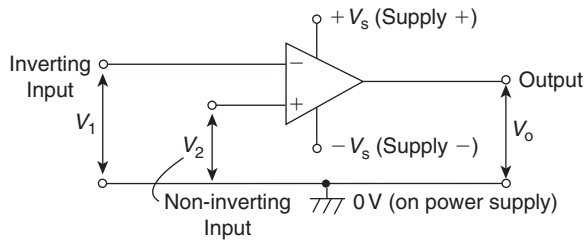

Figure 19.1
- (iii) a very low output impedance, around 100Ω , such that its output voltage is transferred efficiently to any load greater than a few kilohms. The **circuit diagram symbol** for an op amp is shown in Fig. 19.1. It has one output, V_o , and two inputs; the **inverting input**, V_1 is marked $-$, and the **non-inverting input**, V_2 , is marked $+$